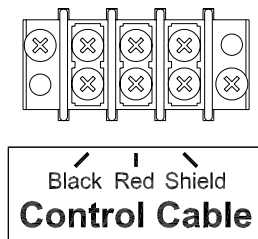

Figure 18 Control Cable Wiring Diagram
3. Connect the control cable to the terminal block labeled **Control Cable** on the junction chassis according to figure 18.